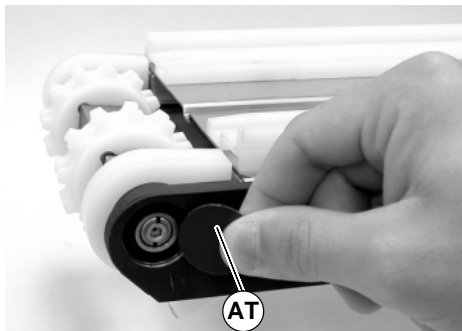

Figure 57
- Install bearing covers (AT of Figure 57).